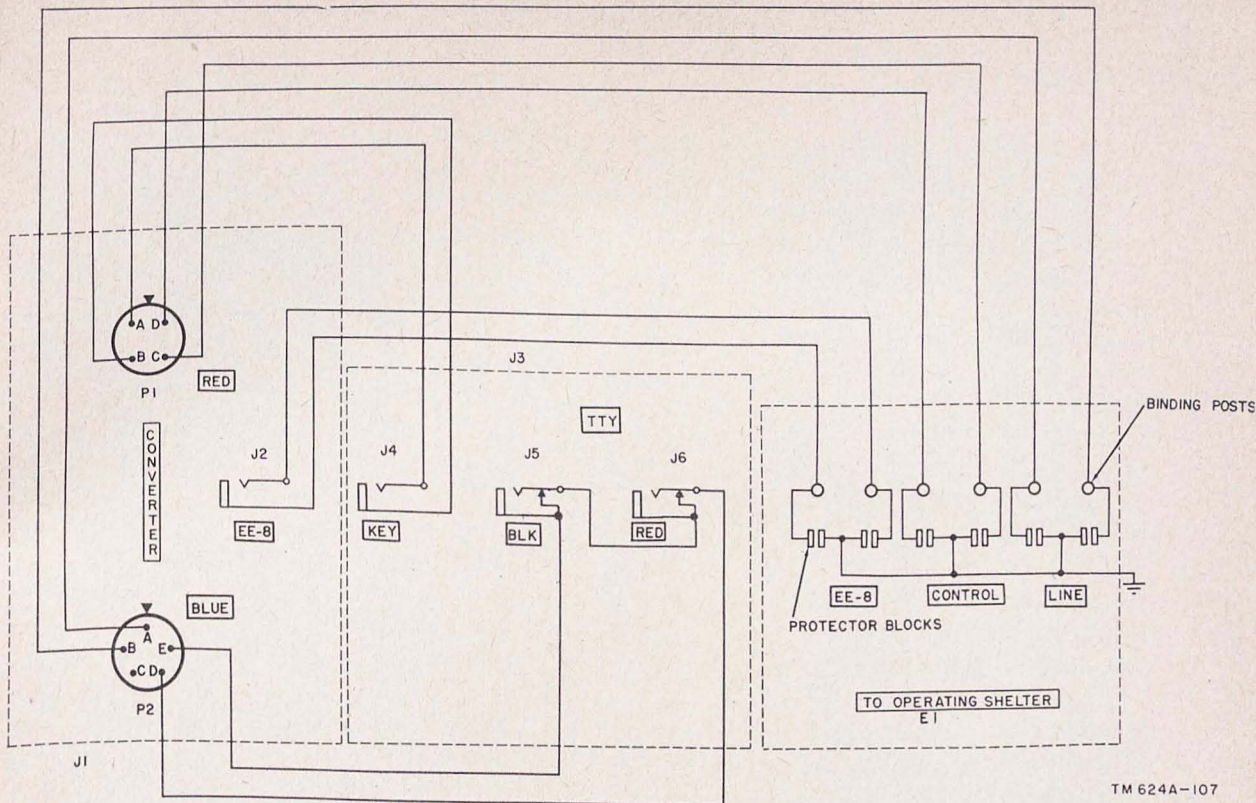

Figure 78. Operating Table FN-23/MRC-2 in receiving shelter, schematic diagram.
*c. Operating Table FN-23/MRC-2 (fig. 78).*